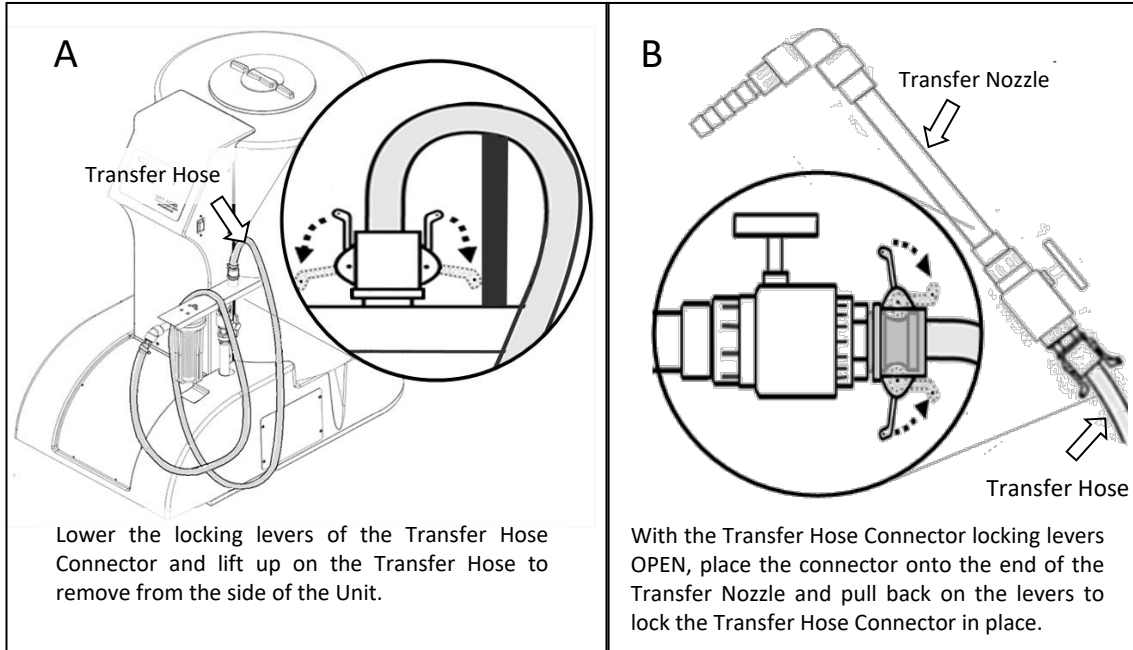

Figure 7
- Remove Transfer Hose from the Transfer Hose Holder (Figure 7, A) and connect the Transfer Hose to the Transfer Nozzle (Figure 7, B).